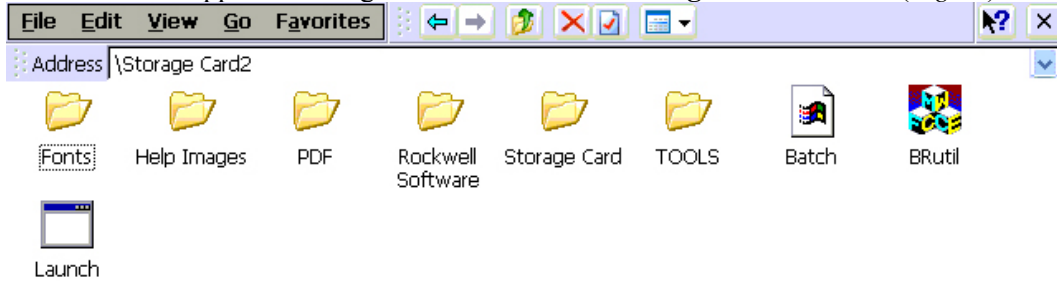

Fig 20
41. A window will appear showing the contents of the “Storage Card2” folder (Fig 20).